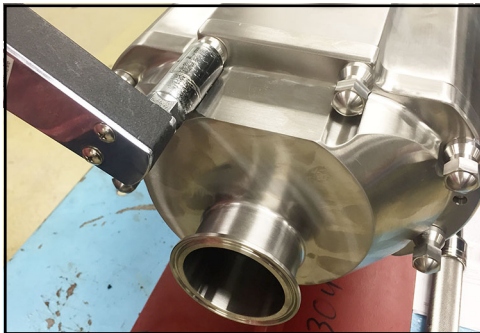

Figure 27 - Remove cover nuts
1. Remove the cover nuts from the cover as shown in Figure 27.